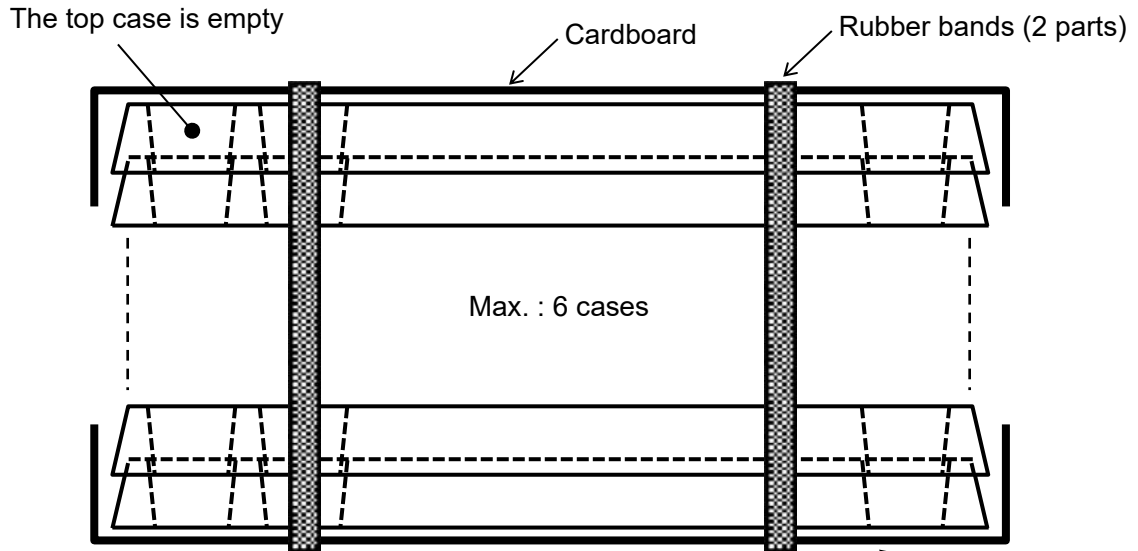

Fig.2
- (1) Put PD2 (Max. : 100 pcs.) in the packing case.
- (2) Pile up 6 cases (the top case is empty), cover top and bottom with the cardboard and fix 2 parts with rubber bands. (Refer to Fig.2)